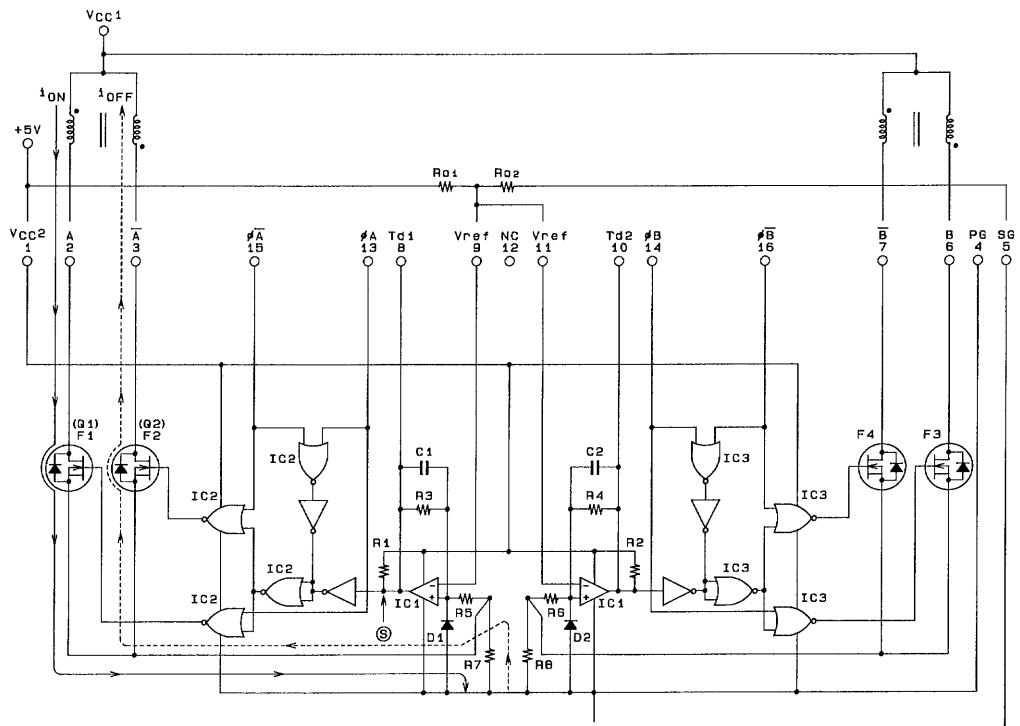

Fig. 1 STK6712BMK4 Internal Equivalent Circuit
The STK6712BMK4 equivalent circuit is given in Fig. 1. The circuit consists of the phase drivers, the comparator, the PWM excitation select and the current detect resistance. In Fig. 1 ϕA is input with low, and $\phi \bar{A}$ with high. When Q1 goes on, the +pin of IC1 (comparator) goes low, making IC1 output (S) low also. A winding current i_{ON} through Q1 increases as: